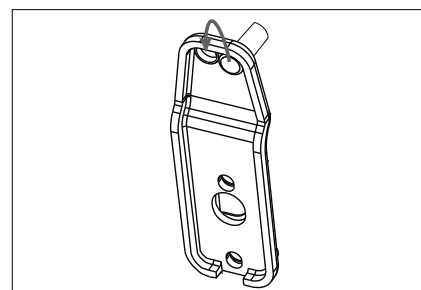

Fig. 3
- ▶ Use a slotted screwdriver to remove the hinge pin on the lower hinge and reposition the hinge pin in the adjacent hole (Fig. 3).